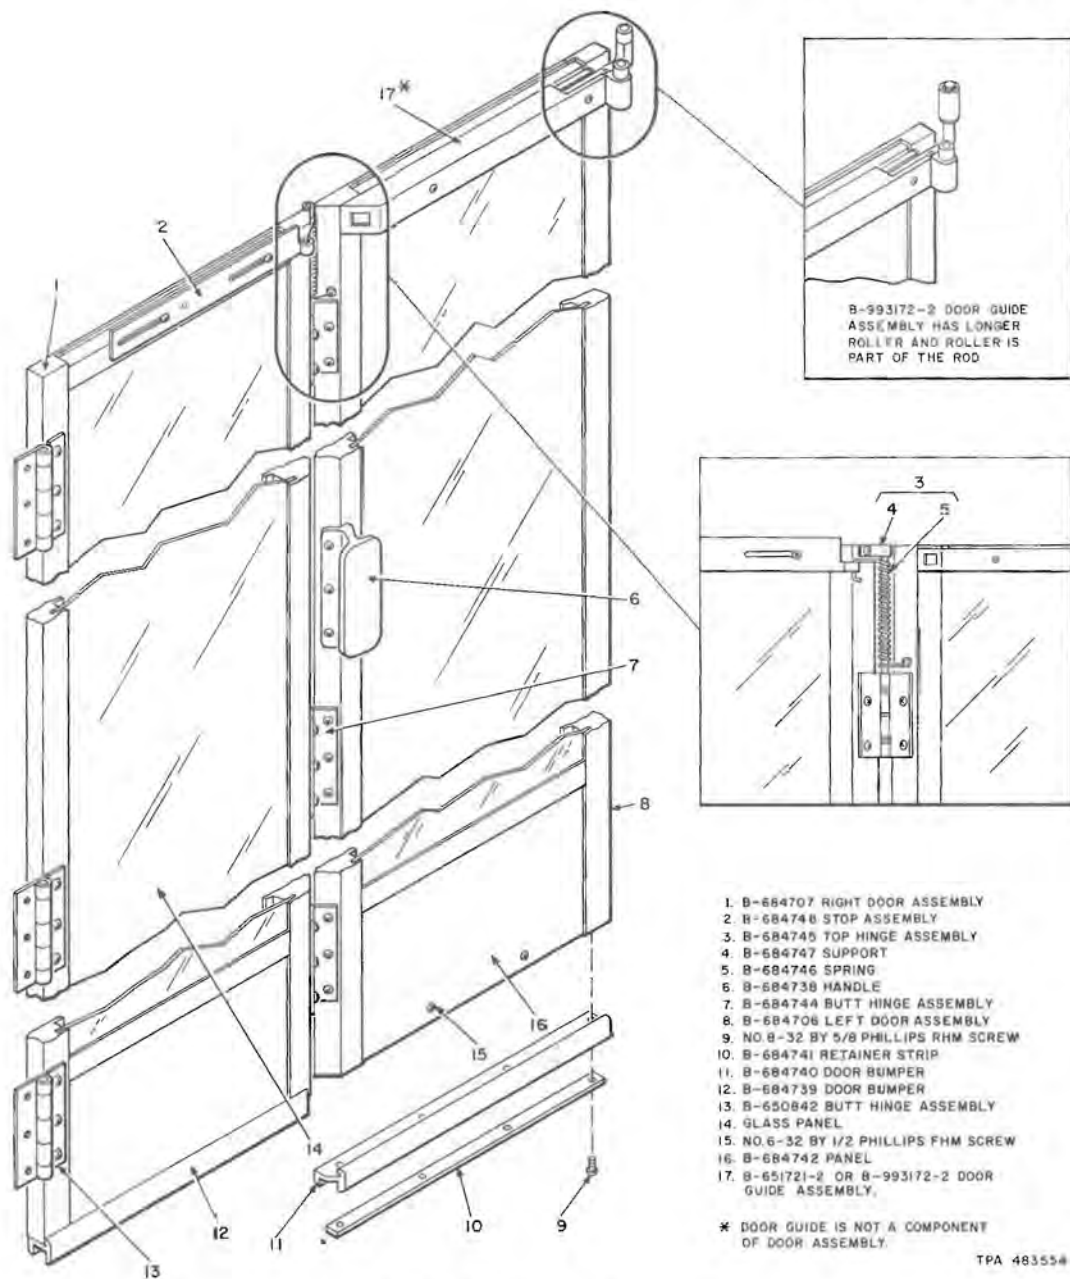

Fig. 24—B-684705 Door Assembly
DOOR REQUIREMENTS (See Fig. 24 For Replacement Parts)
4.27 The door shall be held open 2 to 3 inches when in the normal position. Ensure that maximum tension is obtained on spring in center of door (Fig. 24).
4.35 Replace damaged bumpers along bottom of door (Fig. 24).
4.38 The parts listed in Table C are not shown in Fig. 24, 25, or 26 but may be ordered as necessary. Refer to Tables A and B for panels and signs.